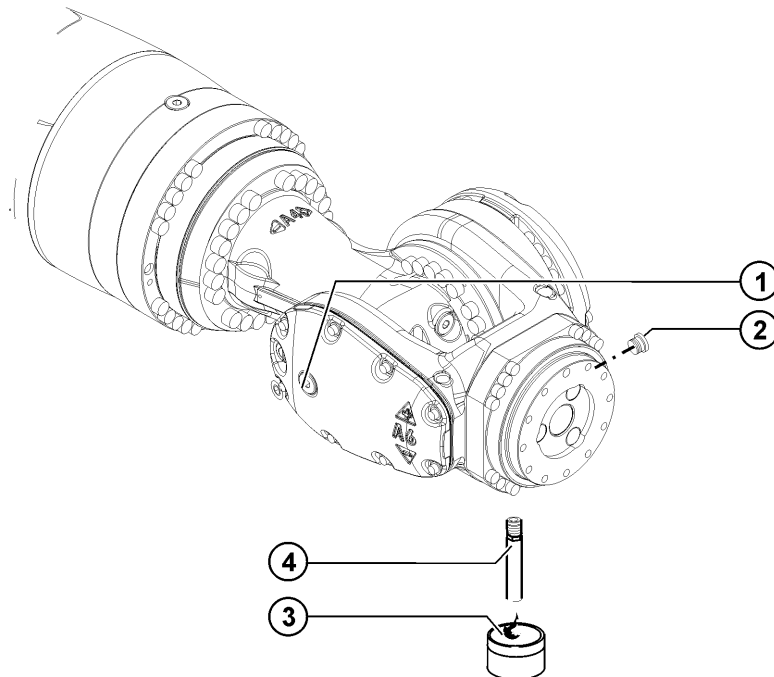

Fig. 9-8: Oil change, A6
2. Place a suitable receptacle (>>> Fig. 9-8) under the (lower) magnetic screw plug and remove the magnetic screw plug.